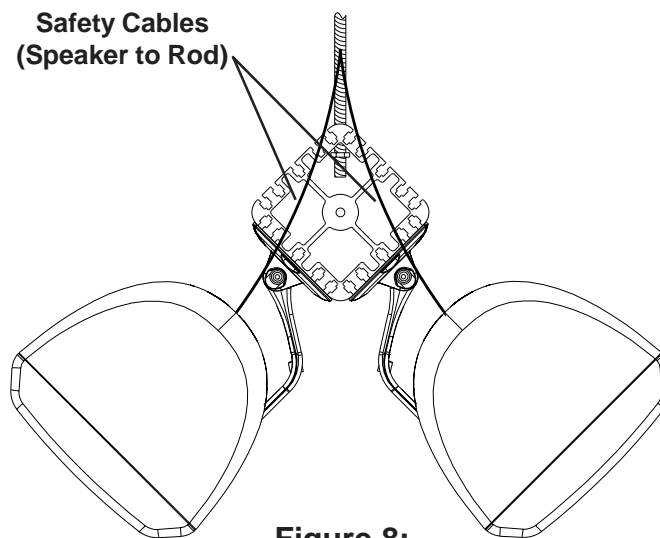

Figure 8:
3. It is strongly recommended that safety cables be attached from each loudspeaker to the top of the array bracket for added safety. Loop around the threaded rod and around the safety suspension point of the loudspeaker (Figure 8).